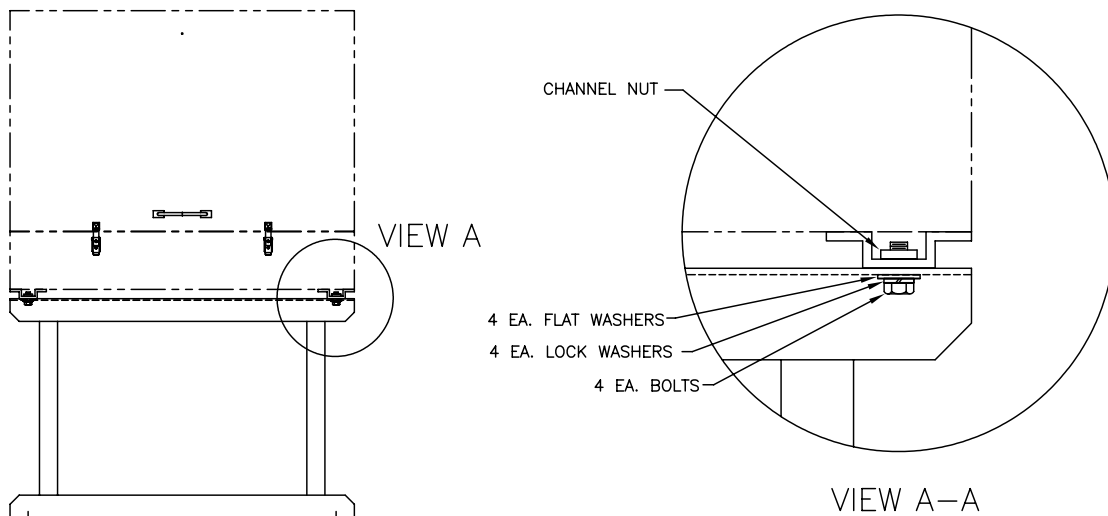

Figure 4 Mounting Hardware
- 3) Place a lock washer, then a flat washer on one of the 1 ¼" bolts and insert through bolt hole located in the angle iron into the outermost corner of the enclosure (see Figure 4).